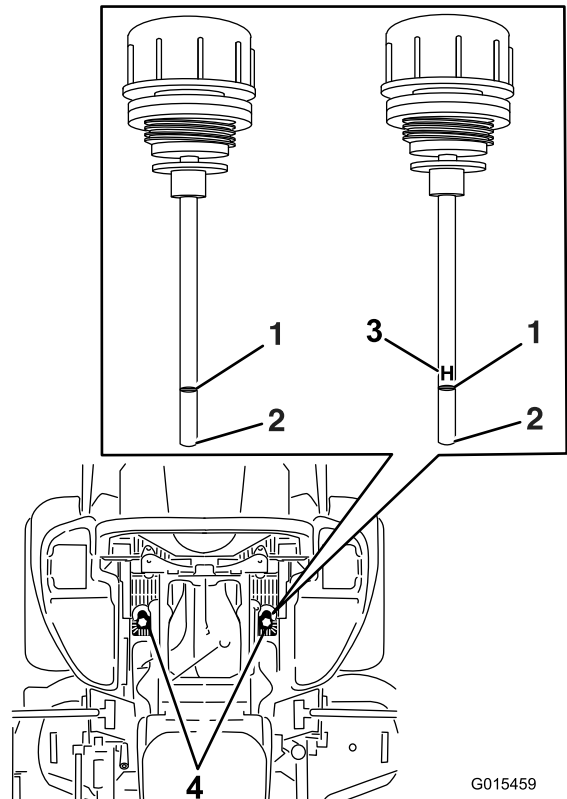

Figure 85
6. Clean the area around the dipsticks of hydraulic-system reservoirs (Figure 85).
7. Remove 1 dipstick from the hydraulic reservoir (Figure 85).
9. Remove the dipstick and look at the end (Figure 85).